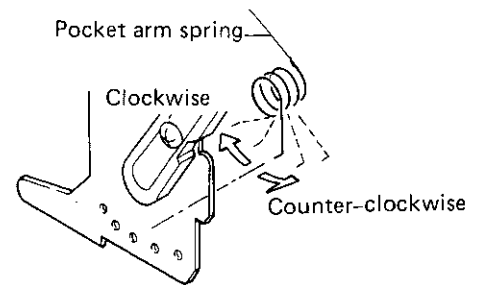

Fig. 8-6 Pocket return spring attachment adjustment
2. Load a cassette half which has the erasure prevention tabs already snapped off, and open and close the door several times. If the eject operation fails to proceed smoothly, switch to the next pocket arm return spring attachment hole in the clockwise direction as shown in Fig. 8-6.
3. If the eject operation has a little too much power, on the other hand, change the pocket arm return spring to the next attachment hole in the counter-clockwise direction. (Fig. 8-6).